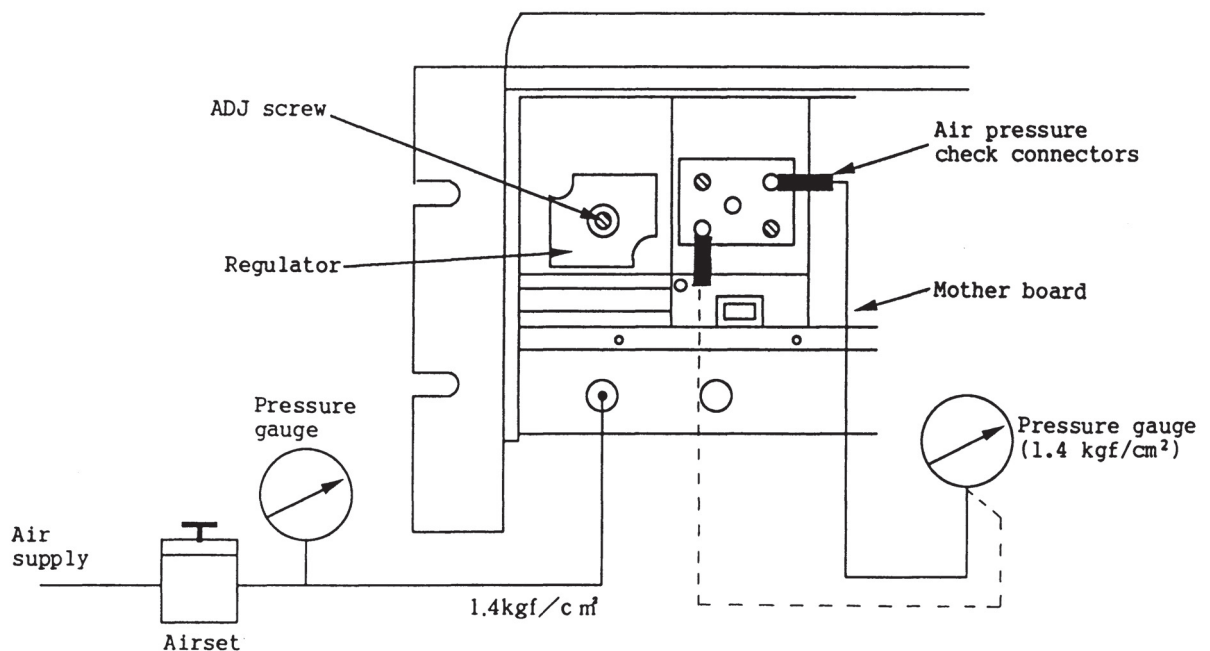

Fig. 9. Adjustment of Regulator
- (1) Remove all I/P converter modules from the mother board.
- (2) Provide the air supply.
- (3) Connect a pressure gauge to the right-most top one of the three air pressure check connectors of the mother board (see Fig. 9). Adjust the ADJ screw of the regulator so that the pressure gauge reads $1.2 \text{ kgf/cm}^2 \pm 5\%$.
- (4) To check the air supply, connect the pressure gauge to the left-most bottom one of the three air pressure check connectors as indicated with a dotted line in Fig. 9 and make sure that the pressure gauge reads $1.4 \pm 0.1 \text{ kgf/cm}^2$.